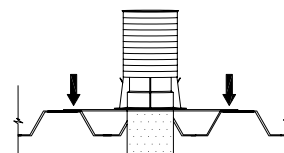

Figure 2
- 3) Put Cast-In-Place Firestop Device with cardboard form into pre-cut hole in metal deck and fasten metal wings to deck. Figure 2